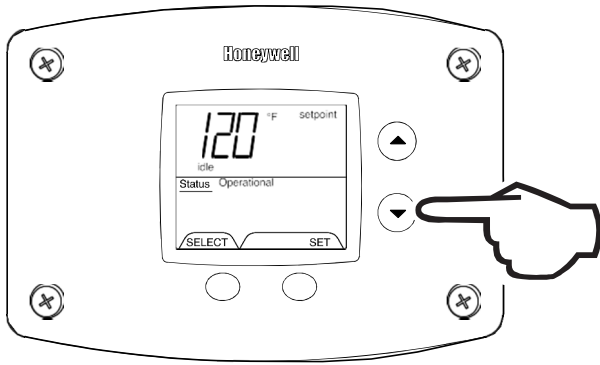

Figure 16
1. Depress and hold 'Temperature Down' button until desired setpoint temperature appears in the display (Fig. 16).